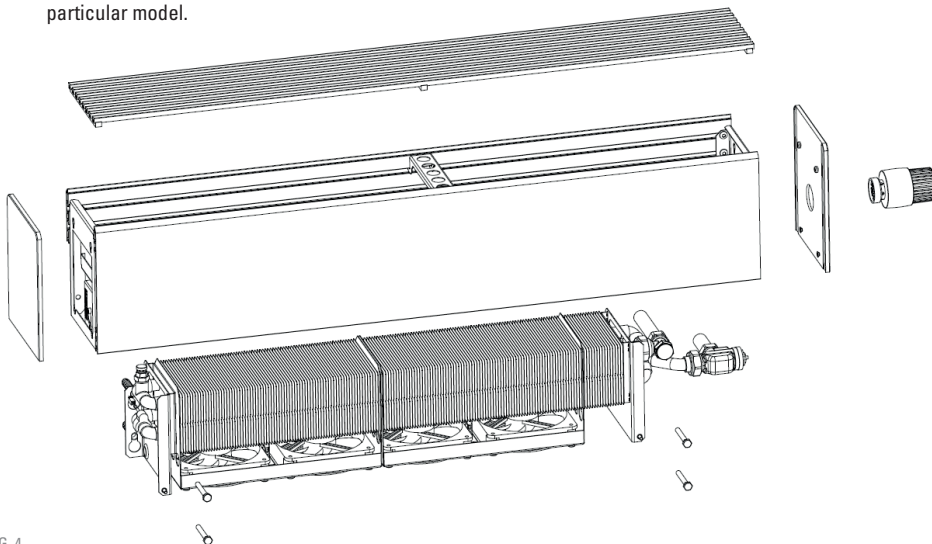

FIG. 4
- If necessary, the side walls of the casing can be removed. Loosen (do not remove) the top screws (1) on Fig. 4 and remove the side wall in the direction of the arrow (2). Use reverse procedure to place back the side wall.